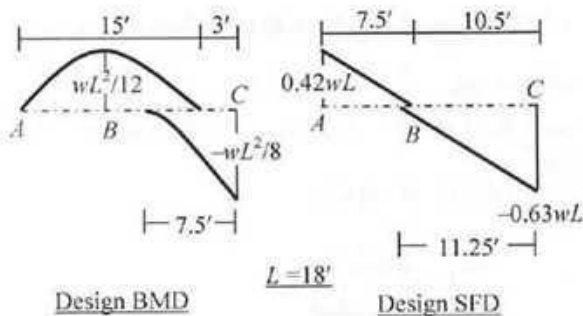
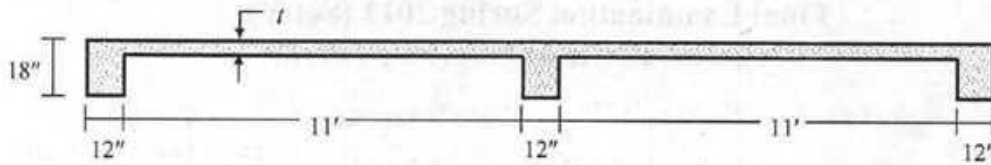
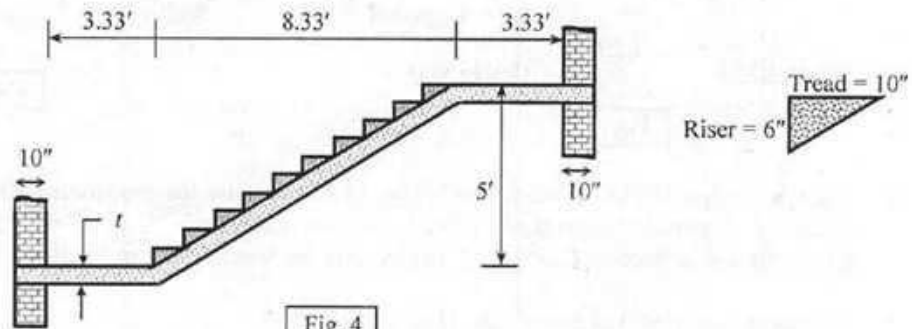

Fig. 1
Fig. 3
Fig. 4
1. Use the design BMD of beam ABC (Fig. 1) to calculate the maximum allowable load (w) for the Section C to remain 'uncracked', considering it is reinforced
2. Use the design BMD of beam ABC (Fig. 1) to
3. Use WSD to design (with neat sketches) rectangular sections ($b = 12''$, $h = 18''$) at B and C for the design BMD of ABC (Fig. 1), considering allowable load w to keep section B singly reinforced.
4. Use USD to design (with neat sketches) rectangular sections ($b = 12''$, $h = 18''$) at B and C for the design BMD of ABC (Fig. 1), considering ultimate load w_u to keep section B singly reinforced.
5. Use WSD to design (with neat sketch of longitudinal profile) inclined stirrups ($\alpha = 45^\circ$) for rectangular sections ($b = 12''$, $h = 18''$) at A and C using the design SFD of ABC (Fig. 1), if w is the maximum load the beam can carry in shear [Assume $12''$ square columns at A and C].
6. Use USD to design vertical stirrups for section C of beam ABC (with $b = 12''$, $h = 18''$) using the design SFD (Fig. 1), if w_u is the ultimate load the beam can carry in shear, and it is also subjected to
- (ii) Use Fig. 1 to draw the longitudinal profile of the beam reinforcements, specifying points where the top and bottom bars can be cut off.
8. Use the design BMD of beam ABC (Fig. 1) to design the L-beam (by USD) and T-beam (by WSD) at section B (i.e., with design moment $= wL^2/12$, where $L = 18'$) of the slab-beam system (Fig. 3), if slab thickness $t = 4''$, floor finish = 30 psf, random wall = 60 psf and live load = 60 psf.
9. Fig. 3 shows sectional view of a one-way slab-beam system (i.e., unsupported in the other direction). Determine the thickness (t) of the slab and use the WSD to calculate the
- Live load (LL) on the slab if the T-beam carries working load of 3 k/ft, assuming the slab to carry working loads including floor finish = 30 psf, random wall = 60 psf, in addition to self-weight and LL.
10. Fig. 4 shows a staircase simply-supported on 10" brickwalls. Determine the thickness (t) of the waist-slab and use USD (with $\rho_s = 0.25\rho_{max}$) to calculate the